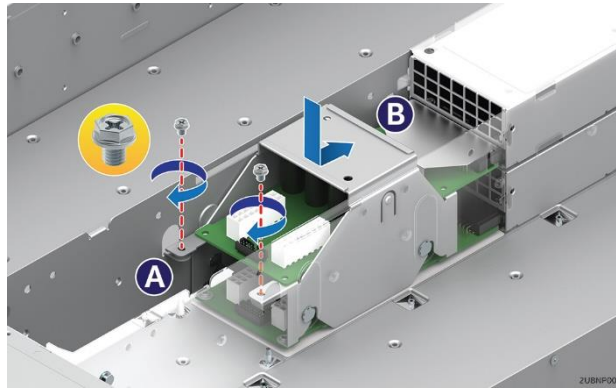

Figure 44. Installing the power distribution module
1. Slide in the power distribution module (A) and fix the module with the two screws (B) as pictured in Figure 44.